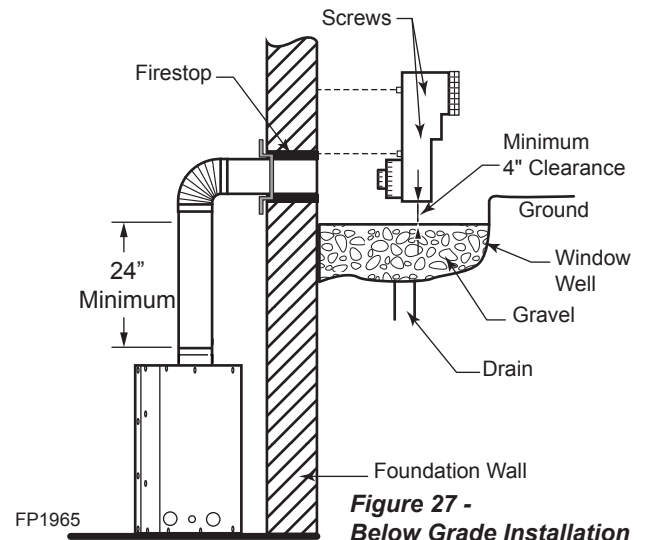

Figure 27 - Below Grade Installation
2. Remove soil to a depth of approximately 16" below base of snorkel. Install drain pipe. Install window well (not supplied). Refill hole with 12" of coarse gravel leaving a clearance of approximately 4" below snorkel. *Figure 27*.
7. Level the soil so as to maintain a 4" clearance below snorkel. *Figure 27*